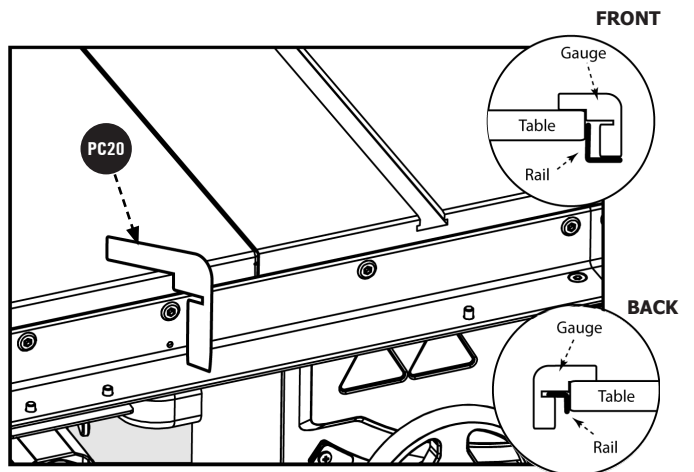

Figure 6
3. Use supplied Rail Alignment Gauge **HP20** to ensure the rail is the proper distance from the top of the table at each side of the cast iron table. See Figure 6.